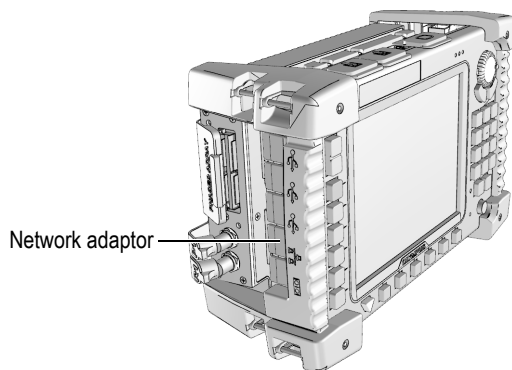

Figure 1-16 The network adaptor on the OmniScan MX
3. Connect a crossover Ethernet cable to the OmniScan network adaptor (see Figure 1-16 on page 37).